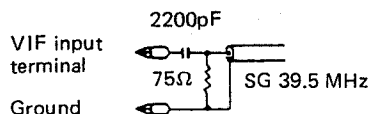

Fig. 1a
- (1) Connect a 39.5 MHz signal generator to the VIF input terminal through the pad shown in Fig. 1a. Set its accuracy within  $\pm 10$  kHz and output level to 90 dB $\mu$  or thereabout.